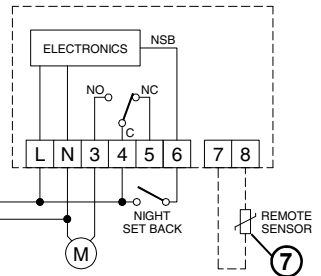
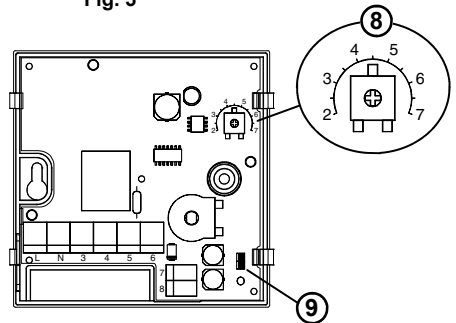

Fig. 5
Fig. 7
5. Make the wiring connections to the backplate as shown in Fig. 5 including any remote sensor connections to terminals 6 and 7.
Terminal NSB (6) Fig.5 allows to activate the "night set back" mode. The night set back temperature is adjustable in the range 2 °C to 7°C by means of the internal trimmer (8) Fig. 7. The thermostat is factory set to 4,5°C night set back.
When using the remote sensor option with the thermostat, connect the sensor as shown in Fig. 5 (7) and remove the jumper on the bottom right hand corner of the backplate - see (9) Fig. 7. Cased remote sensors must be connected in cable of at least 1.5mm2 cross sectional area and not greater than 25m in length. Do not put mains cables and sensor cables next to one another.